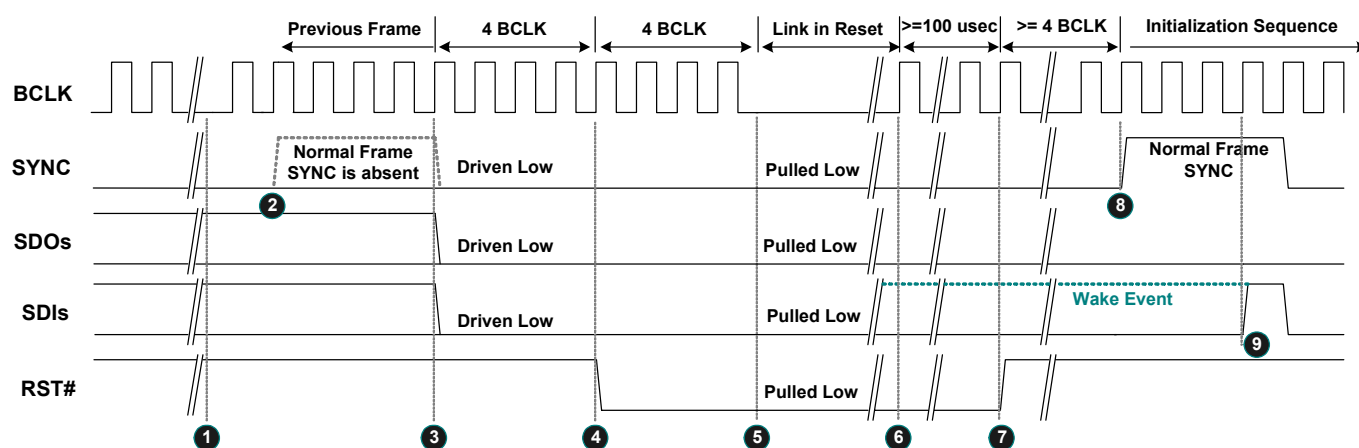

Figure 12. Link Reset Timing
3. Software initiates power management sequences. Figure 12, page 19, shows the 'Link Reset' timing including the 'Enter' sequence (❶~❺) and 'Exit' sequence (❻~❾)